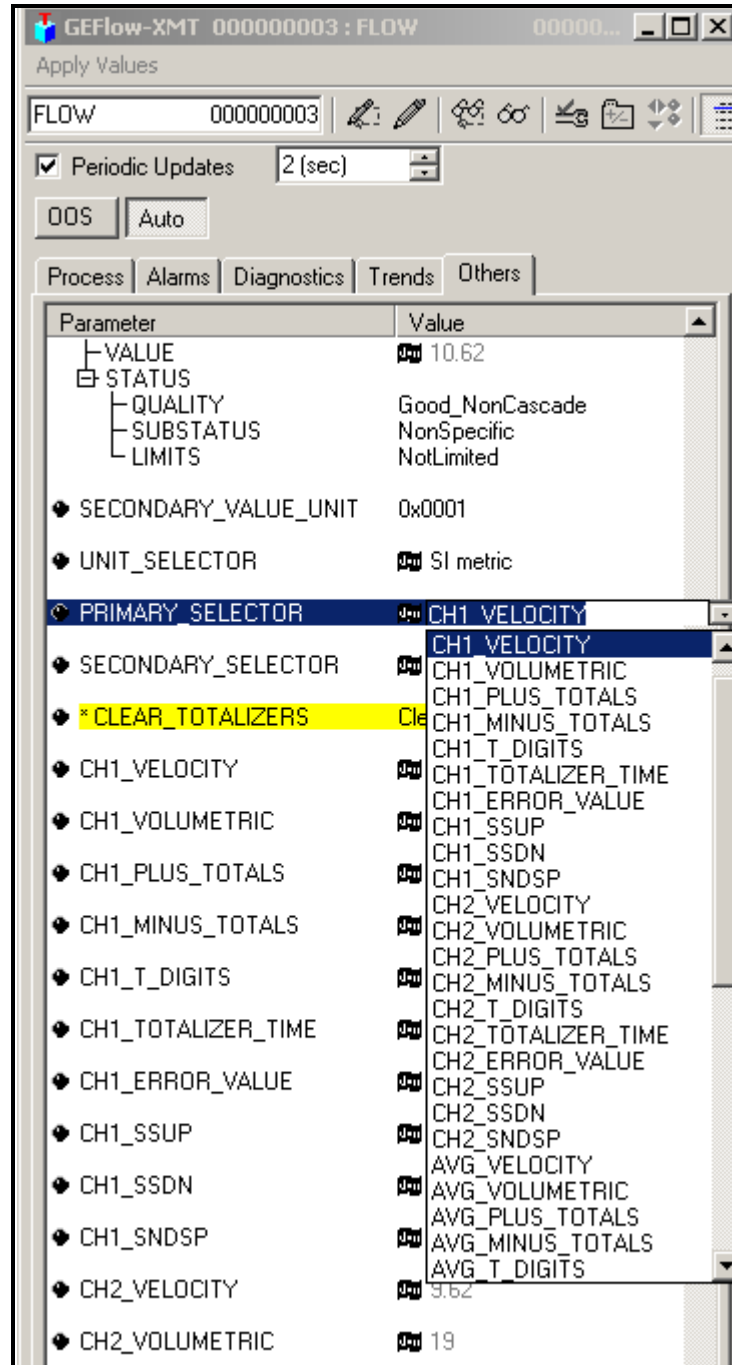

Figure 41: Primary Selector Drop Down List
2. Select the **Others** tab and open the drop down list for the PRIMARY_SELECTOR and SECONDARY_SELECTOR (refer to Figure 41 on page 131).
3. Choose the unit from the list (see Figure 41 on page 131).